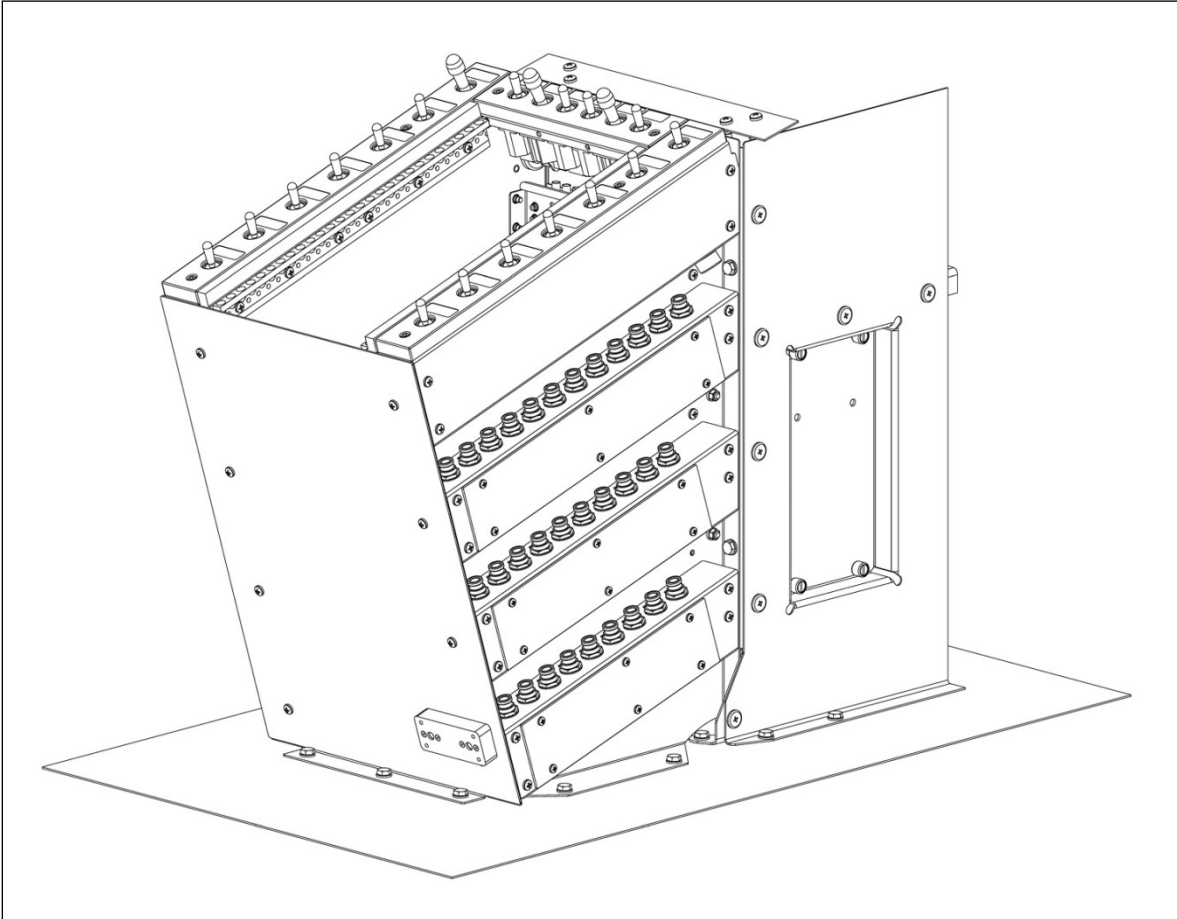

FIGURE 19: P132 CONSOLE INSTALLED
- 5.5.2 Refer to Figure 19 to Figure 21 for installing the P132 Console.
Parts List for FIGURE 19 TO FIGURE 21